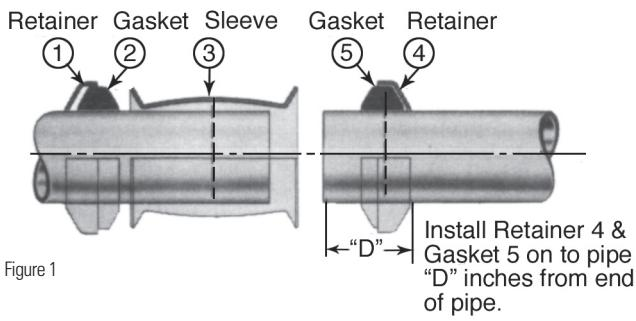
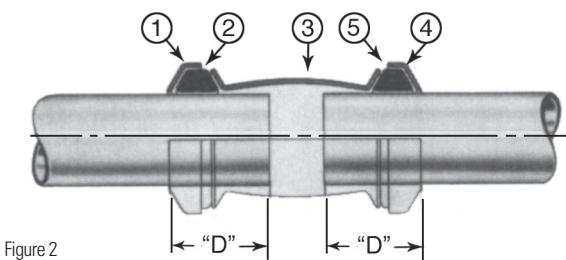

Figure 1
Figure 2
- Install retainer (1), gasket\* (2) and sleeve (3) on one side of pipe in sequence shown in Figure 1.
- Install remaining retainer (4) and gasket (5) on other pipe end.
- Position retainer (4) and gasket (5) to proper pipe insertion depth ("D") as shown in Table 1.
- Slide sleeve (3) to gasket (5) and move gasket (2) and retainer (1) into position as shown in Figure 2. Pipe must be inserted to proper depth ("D") into both gaskets as shown in Table 1.
- Install both V-couplings, encompassing the retainer, gasket and sleeve as shown in Figure 4. Do not tighten either coupling until the entire joint is assembled (See Figure 2). Tighten nuts to the torque specified in Table 2. Do NOT lubricate the nut or bolt before assembly. The gap method outline in Table 3 may be used for standard gaskets only.